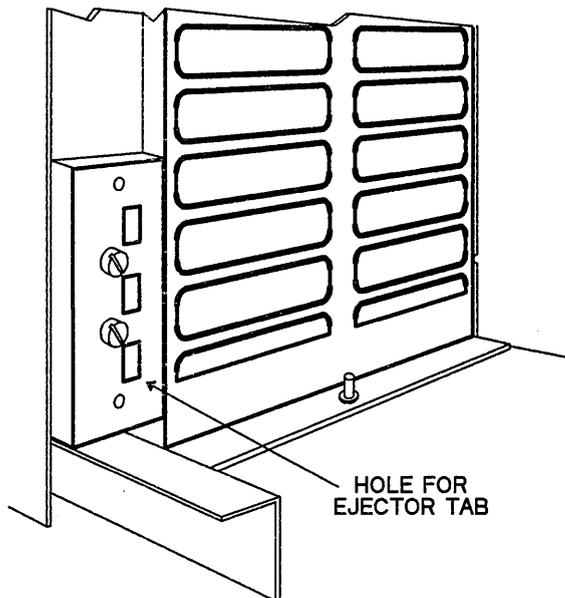

Figure 11-17. XDS/22 Card Cage Ejector Tab Holes
- 4) Place card in slot 1 (lowest) and push it into card cage until it reaches backplane card sockets, then back it out slightly until you can rotate outside edge of each ejector tab into small square hole on side of card cage (Figure 11-17). Take care to guide the extended-address cable past the card's soldered side.